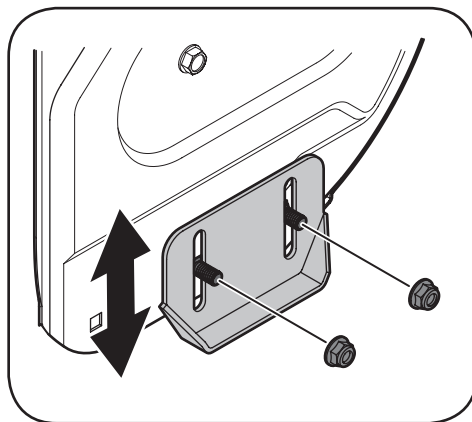

Figure 3-9
The snow thrower skid shoes are adjusted upward at the factory for shipping purposes. Adjust them downward, if desired, prior to operating the snow thrower attachment. See Figure 3-9.
1. Loosen the four hex nuts (two on each side) and carriage bolts. Move skid shoes to desired position. See Figure 3-9.